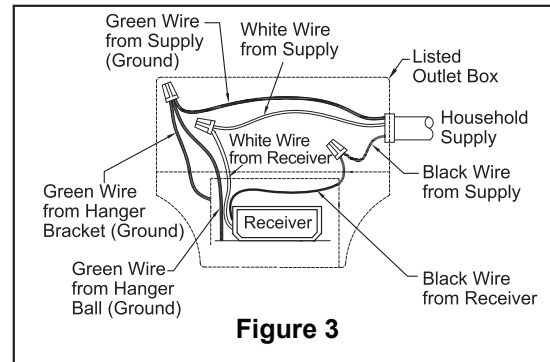

Figure 3
- After connections have been made, the wires should be spread apart with the grounded conductor and the equipment-grounding conductor on one side of the outlet box and the ungrounded conductor on the other side of outlet box, then turn leads upward and carefully push leads into the outlet box, with the white and green leads to one side of the box and the black leads to the other side. (Figure 3)
- ❑ To make fan operational, Install two 1.5V AAA batteries. battery not included (If not used for long periods of time, remove battery to prevent damage to transmitter). Store the remote away from excessive heat or humidity. (Figure 3)